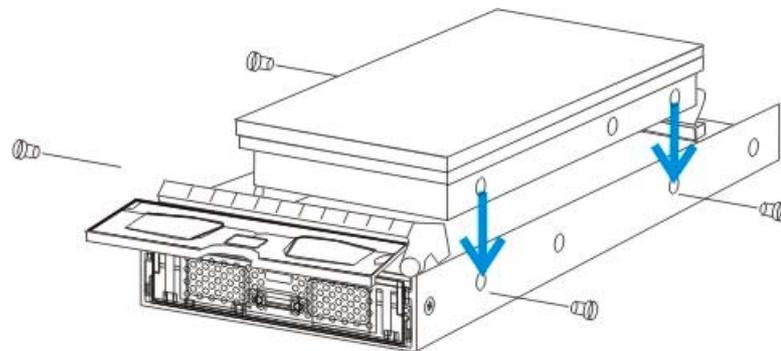

Figure 2-16: Inserting the PATA Drive
Step 8. Insert the hard drive. Once the connectors from the MUX kit have been firmly attached to the hard drive, place the hard drive into the drive tray as shown in *Figure 2-16*.